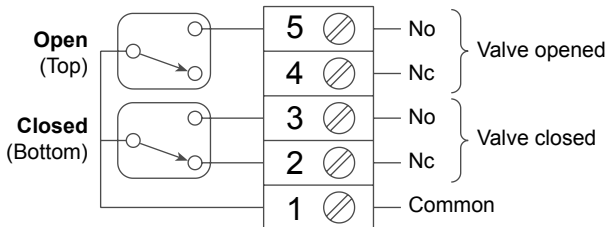

Fig. 3 SLM1 wiring diagram
Referencing Figure 3 - Check the **continuity** between contact 1 and contact 3 (NO) and the **non continuity** between contact 1 and contact 2 (NC) with an ohmmeter.
Referencing Figure 2 - Start with the valve and actuator assembly in the valve open position. Adjust the top cam to turn on the top switch. Tighten the screw (11) holding the cams in place. Referencing Figure 3 - Check with the ohmmeter the **continuity** between contact 1 and contact 5 (NO) and the **non continuity** between contact 1 and contact 4 (NC).